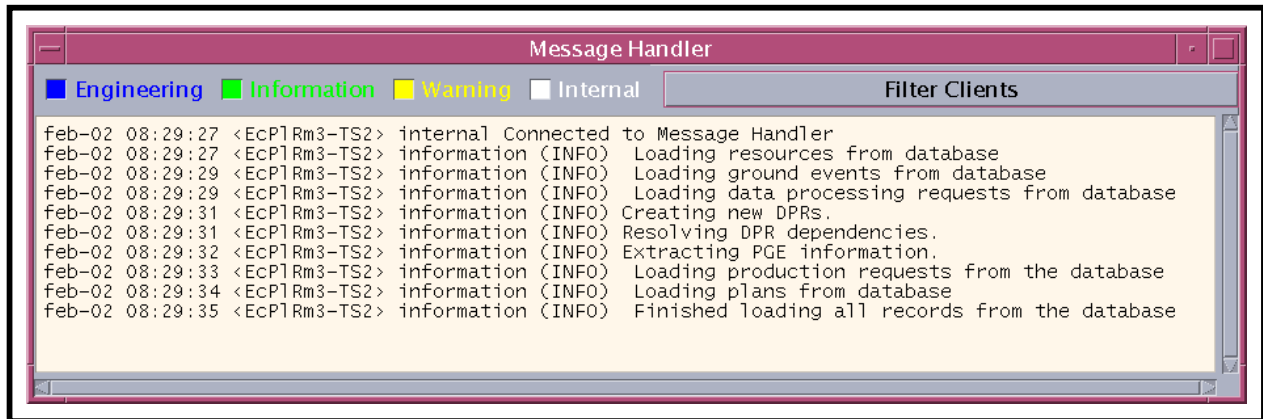

Figure 35. Message Handler GUI
- The **Message Handler** GUI (Figure 35) is displayed.